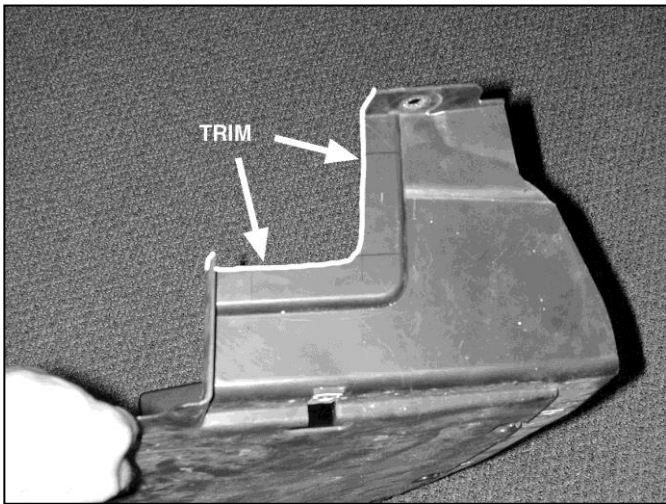

Fig.11
- p. For optimum performance, trim the passenger side under tray as shown to provide colder air to the filter element. **(Fig.11)**